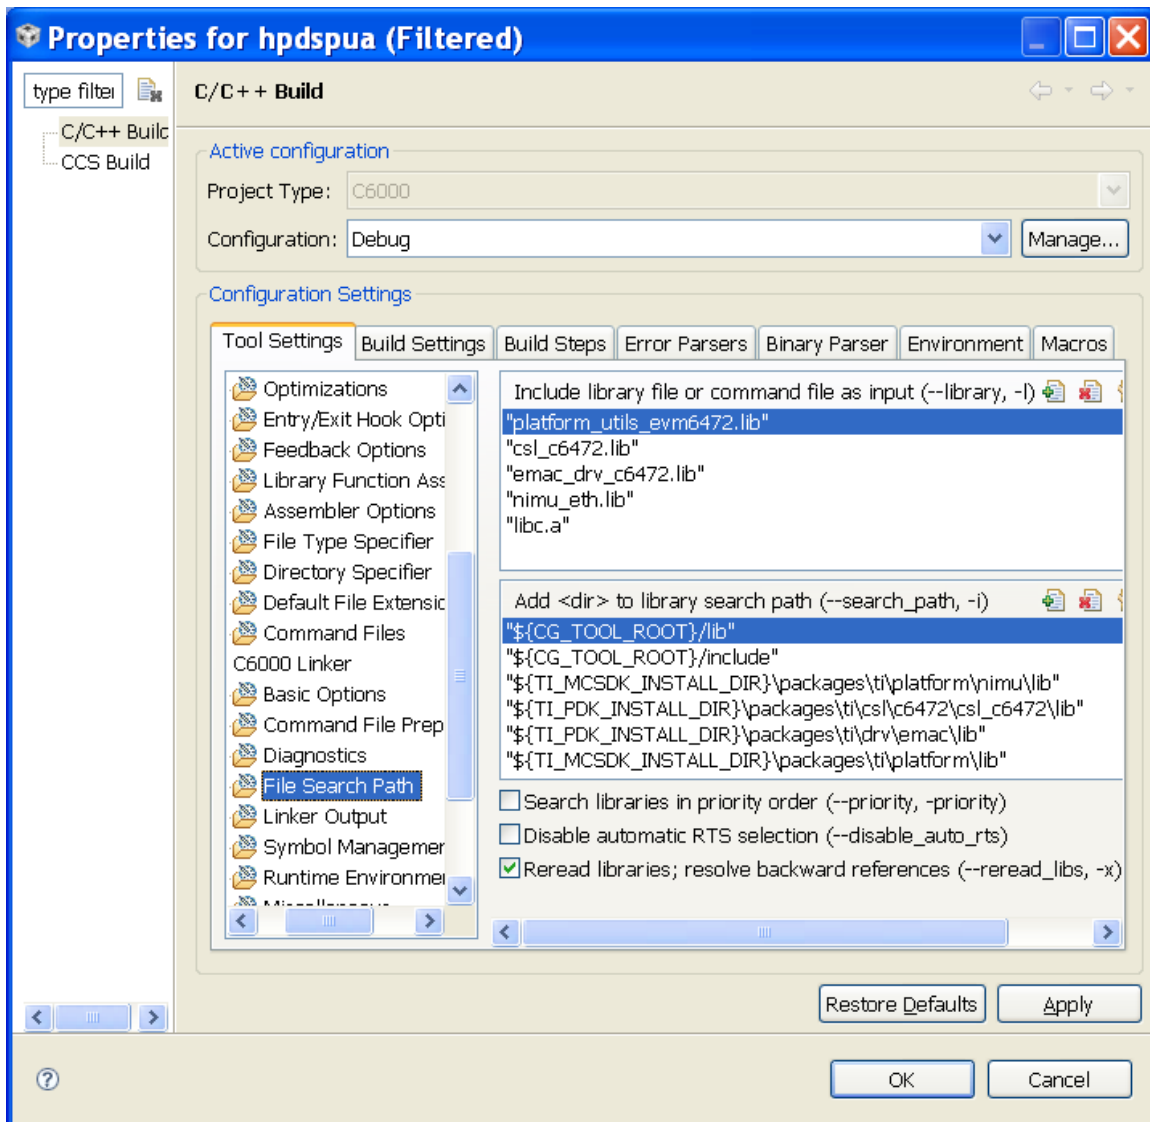

Figure 15 - Library Build Settings
1. Change the libraries the Utility links with to use their Big Endian counterparts. See Figure 15 - Library Build Settings. You do not need to change anything for NDK or SYS/BIOS.